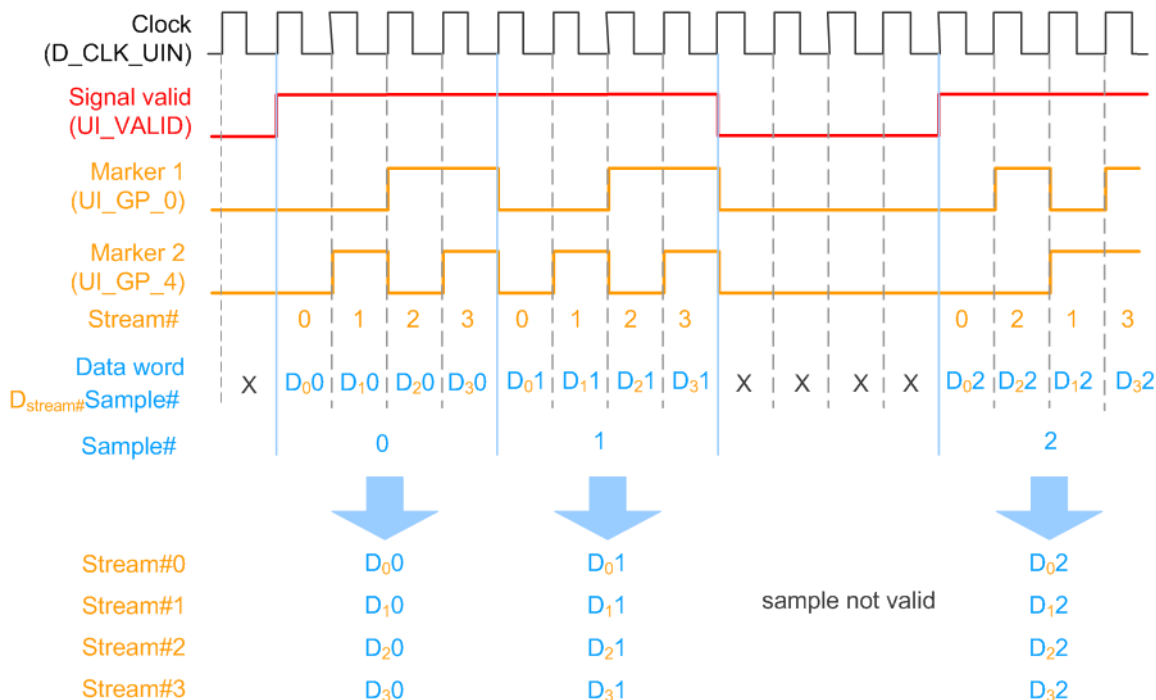

Figure 3-2: Example: Signal at the user interface of the R&S EX-IQ-Box (four multiplexed streams)
If multiplexing is used, the R&S SMW outputs up to four multiplexed streams at one digital I/Q interface (BBMM 1/2 OUT); see Figure 3-2.
(on Figure 3-2 data samples are indicated as $D_{\text{stream\#}}\text{Sample\#}$)
- samples order may vary, see the third sample on Figure 3-2
The Figure 3-2 shows the multiplexed signal at the user interface of the R&S EX-IQ-Box.